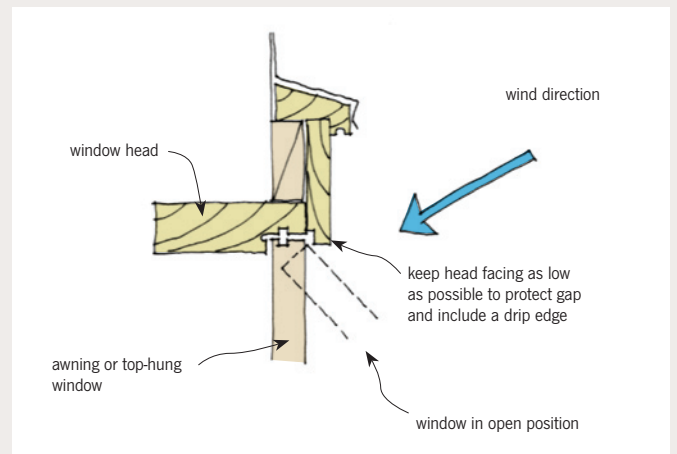

Figure 10: Protecting window head from water ingress.
- For awning windows, drop the head facing to cover the gap (see Figure 10). Check the action of the window stays for clearance – they usually drop down in the opening then rotate out.